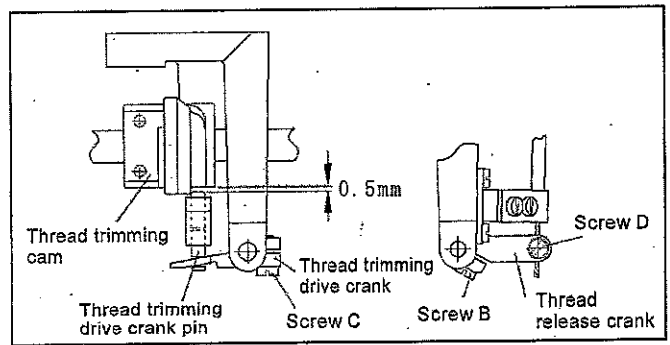

Fig.25
3) Adjustment of gap between thread trimming drive crank pin and thread trimming cam (Fig.25)
6) Adjustment of releasing gap of thread tension disc (Fig.25)